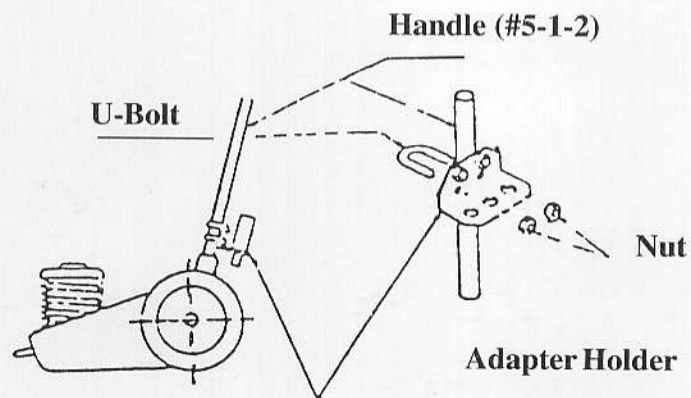

Figure 2
2. Adapter Holder needs to be assembled the Handle (#5-1-2) as shown in Figure 2. Use 2 Bolts, 2 Nuts and 2 Spring Washers to complete this assembly.